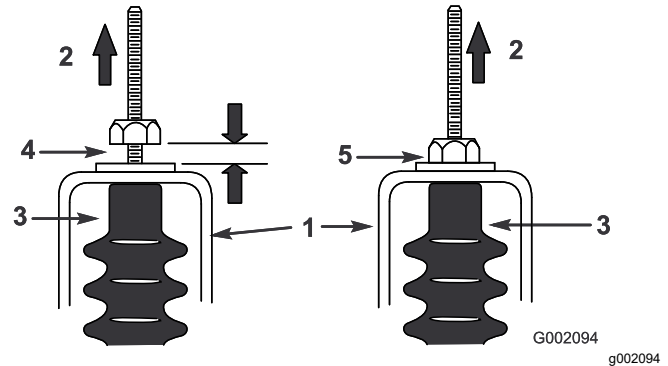

Figure 60
5. Pull up on each shift cable and ensure that there is a 0.76 to 1.52 mm (0.03 to 0.06 inch) between the nut/washer and the neutral bracket (Figure 60).